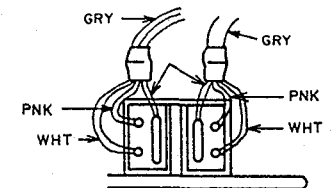

Fig. 4-3
- 3) When reassembling the REC/PB head, connect the lead wires referring Fig. 4-3 by soldering iron. then secure HEAD FIXATION SCREWS.
Before disconnect the lead wires, confirm that the color of lead wires are same as Fig. 4-3.